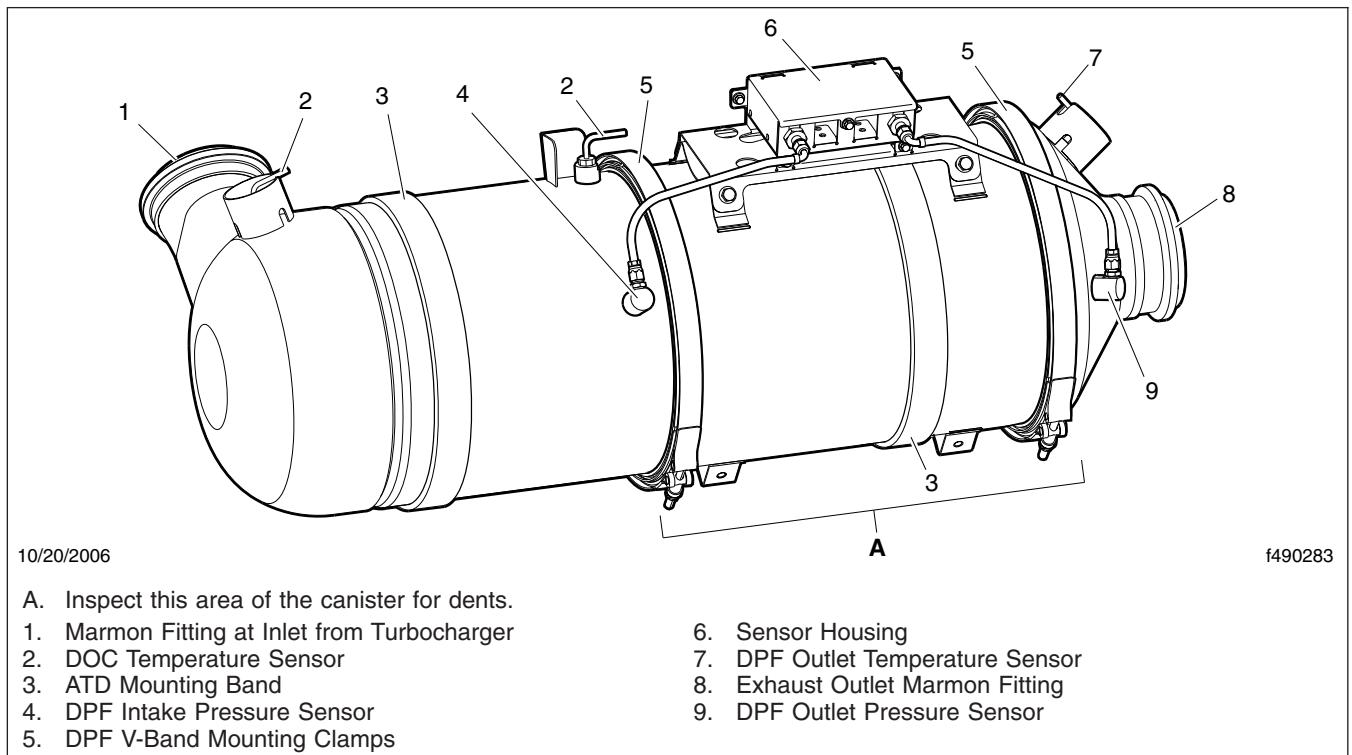

Fig. 7, Typical After-Treatment Device
IMPORTANT: The Environmental Protection Agency's 2007 regulations require lower exhaust emissions, thus requiring new exhaust system components. See **Fig. 7**. In particular the after-treatment device (ATD), which is part of the after-treatment system (ATS), requires
8. Check the DPF exterior surface for dents or other damage. See Item A of Fig. 7. A dent over 3 inches (76 mm) in diameter and 1/4-inch (6-mm) deep could cause internal damage to the DPF, causing it to malfunction.